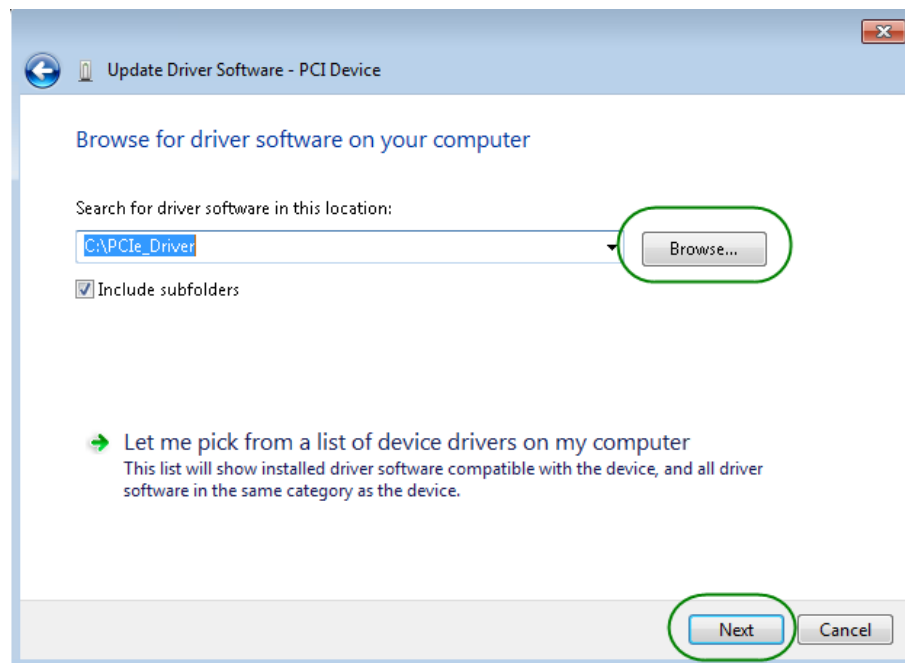

Figure 1-5 Browse for driver software on your computer
7. In the **Browse for driver software on your computer** dialog, click the **Browse** button to specify the folder where altera_pcie_win_driver.inf is located, as shown in **Figure 1-5**. Click the **Next** button.